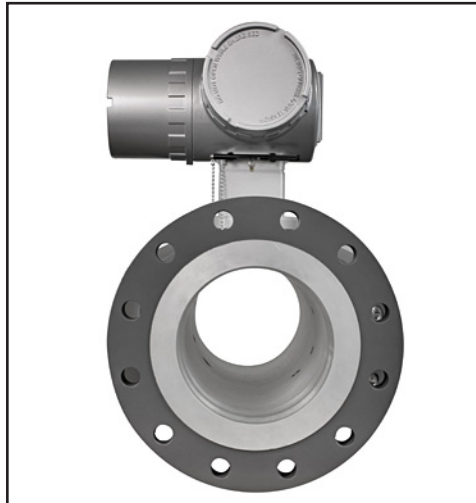

Figure 10: Sentinel LCT8 Mounting Flange
3. Align the flange mounting holes as shown in *Figure 10* below.